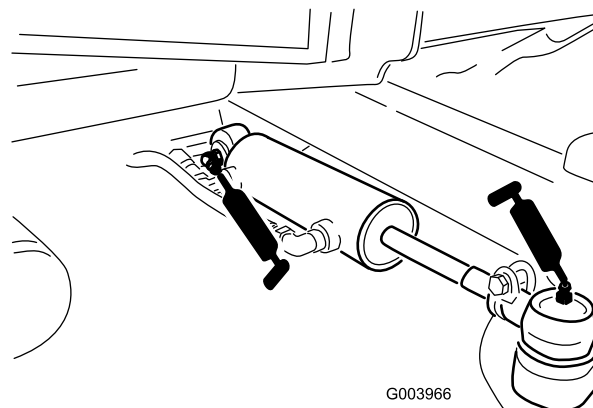

Figure 56
- Steering cylinder ball joints (2) (Figure 56)